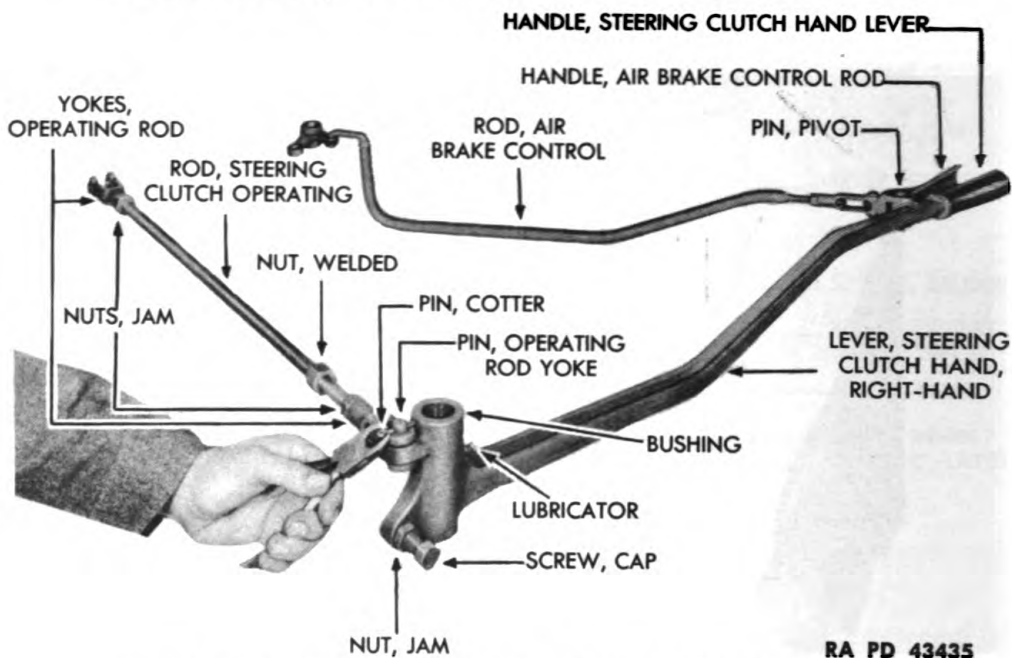

Figure 116 — Right Steering Clutch Lever Parts Removal
(2) REMOVE PARTS FROM RIGHT STEERING CLUTCH HAND LEVER (fig. 116).
(4) ASSEMBLE PARTS TO RIGHT STEERING CLUTCH HAND LEVER (fig. 116).
(5) **ASSEMBLE PARTS TO LEFT STEERING CLUTCH HAND LEVER (fig. 116).**